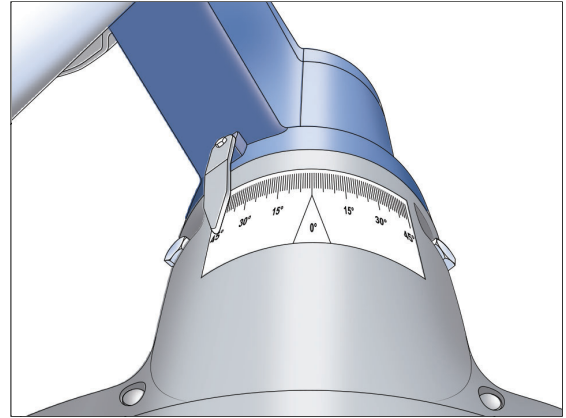

Figure 8E. Set the saw blade angle to 45°
- Set saw blade - left tilt to 45° (Figure 8E).
- Set saw blade - left tilt to 45° (Figure 8E)